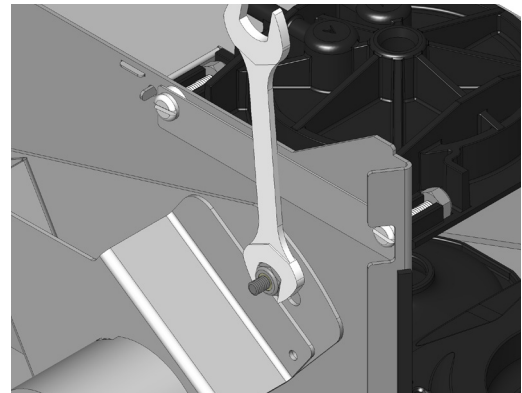

FIG 22-3 Slightly loosen both nuts.
10. Slightly loosen 2 nuts securing motor mounting bracket to ejector wall. FIG 22-3.